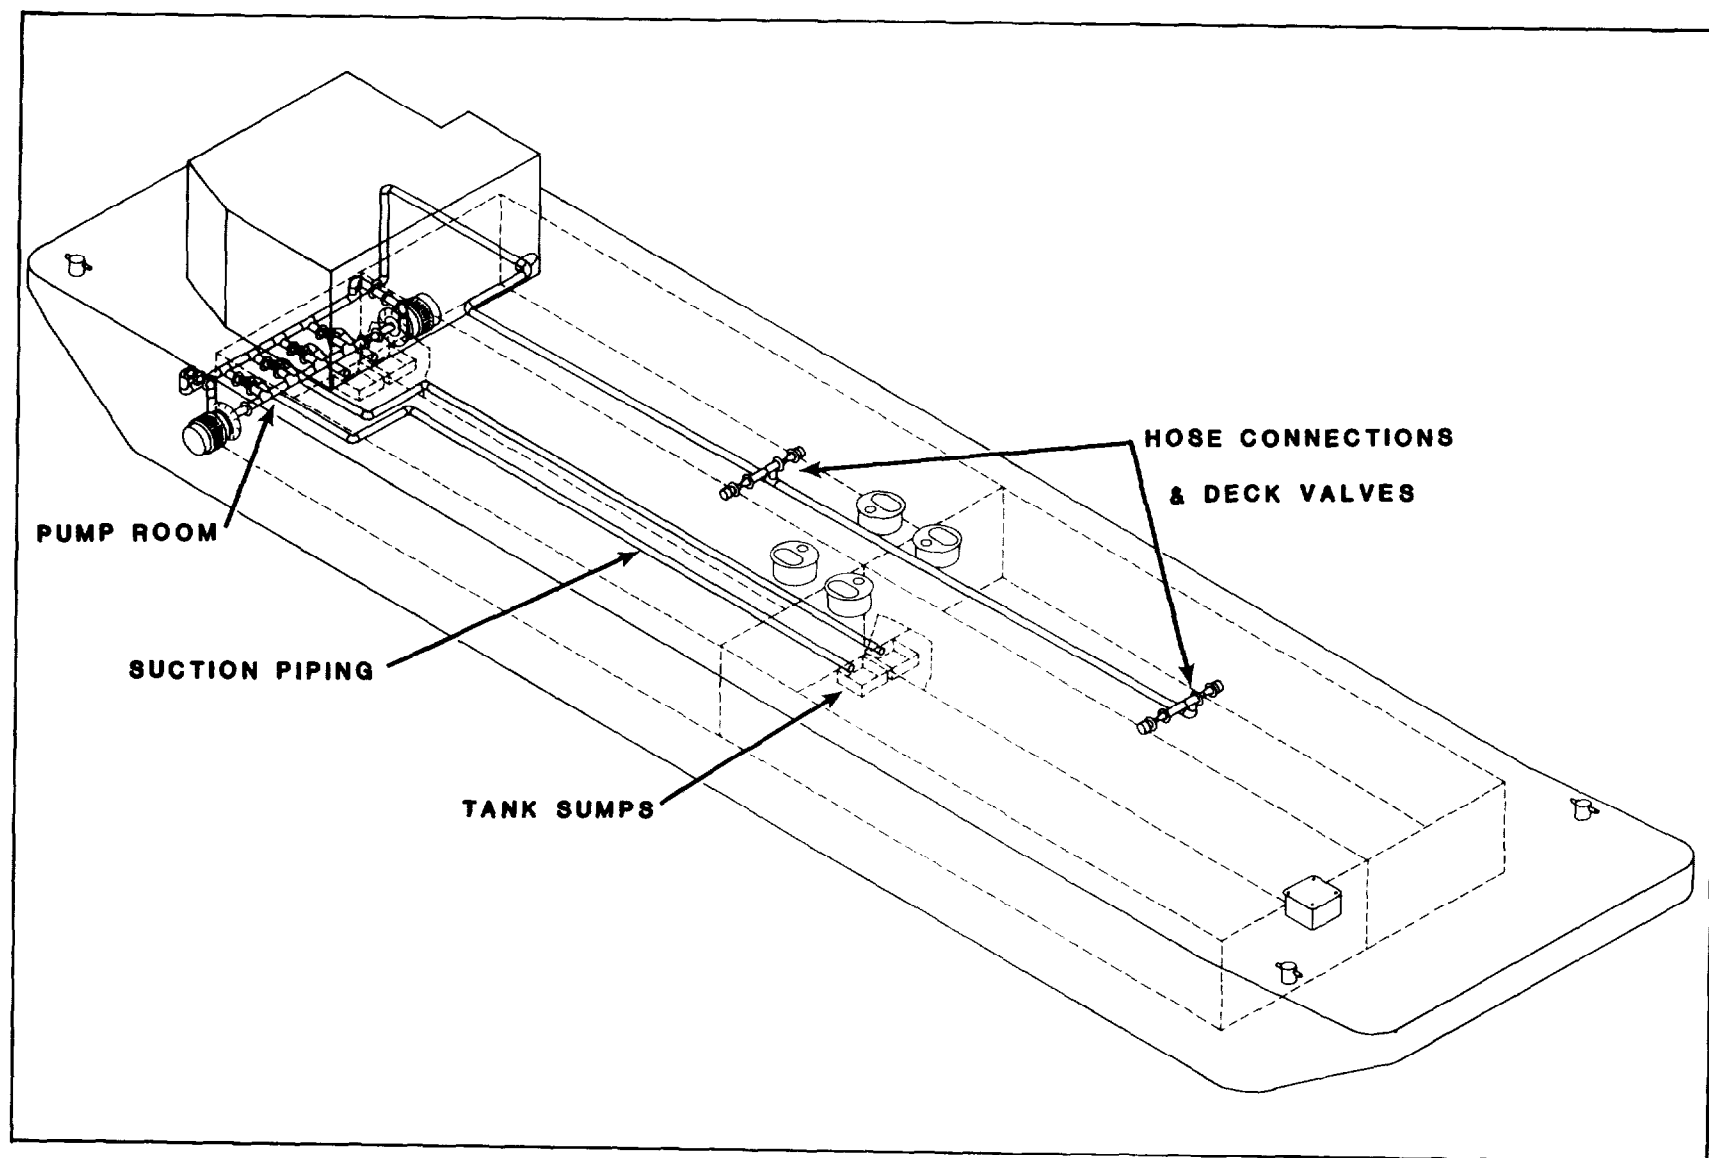

FIGURE 2-14
2.5.1 CARGO SYSTEM LAYOUT. The cargo system consists of the deck piping, the cargo pumps, and valves. When loading or discharging sewage, transfer hose can be connected to the 4-inch female cam-lock fittings on the Main Deck. Figure 2-14 shows the cargo piping arrangement. Piping below the Main Deck is 4-inch copper nickel pipe. Main Deck piping is 4-inch fiberglass pipe.